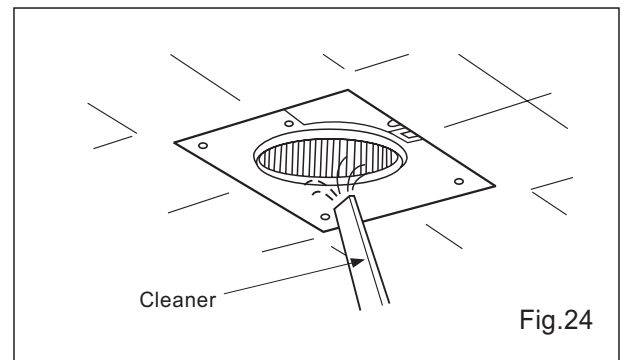

Fig.24
3. Remove dust and dirt from fan body using a vacuum cleaner. (Fig.24)